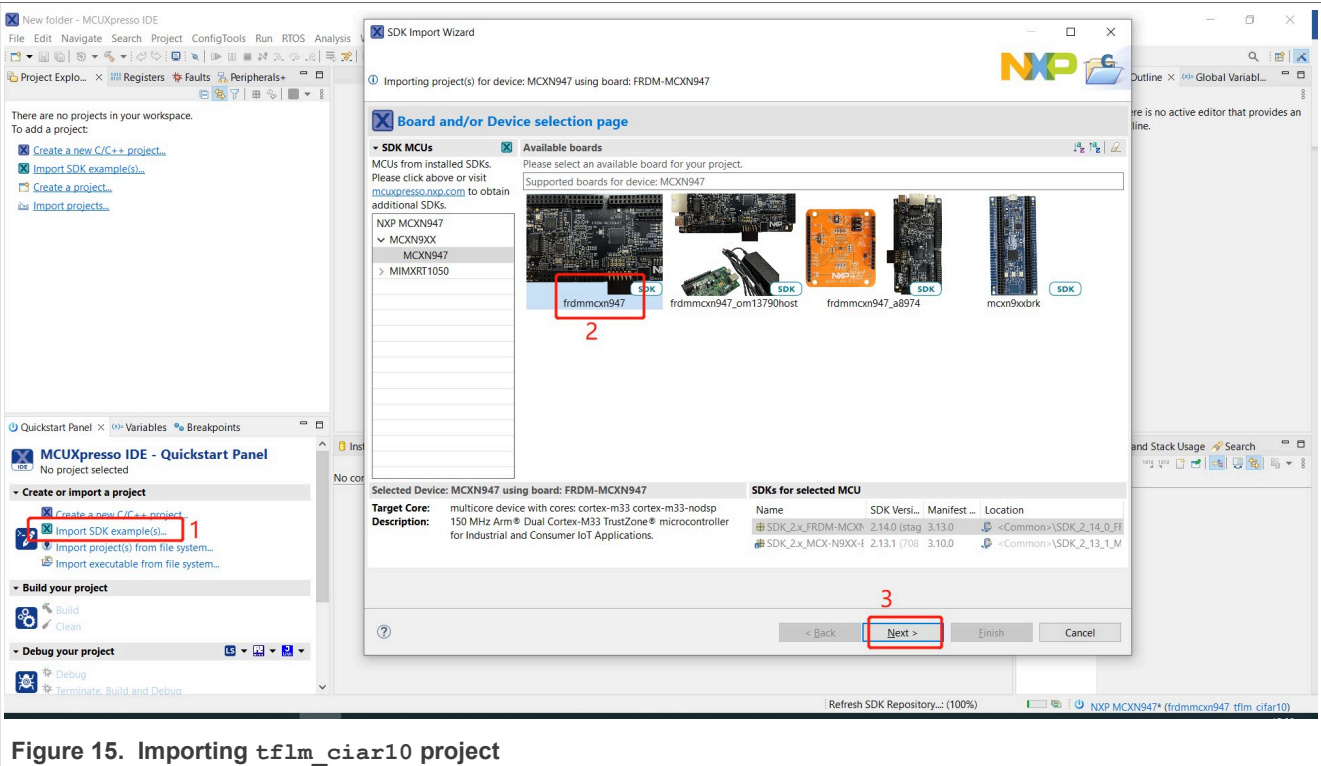
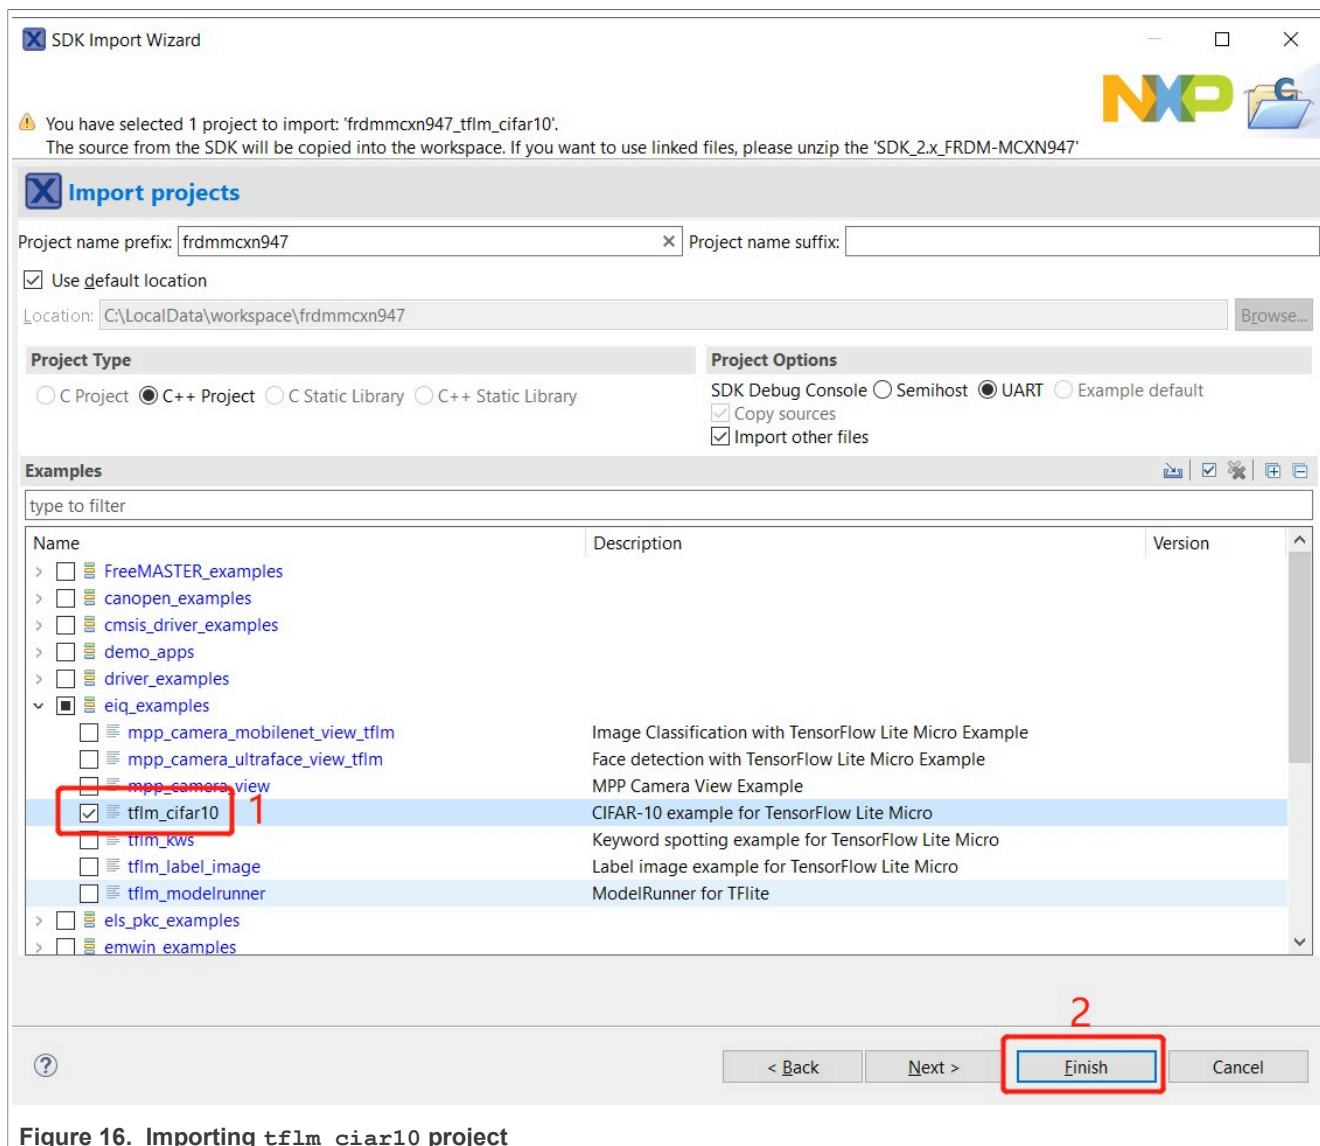

Figure 15. Importing tflm_cifar10 project
Figure 16. Importing tflm_cifar10 project
- 1. Import the `tflm_ciar10` project. To import the `tflm_ciar10` project, follow the steps in Figure 15 and Figure 16.